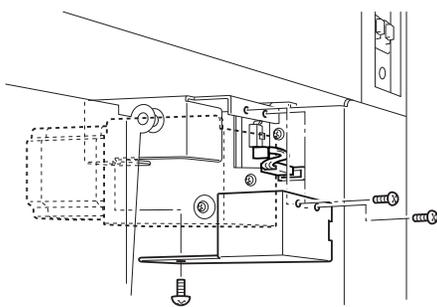

Figure D-10
15. Connect the swing guide drive gear assembly with the one connector. (Figure D-10)